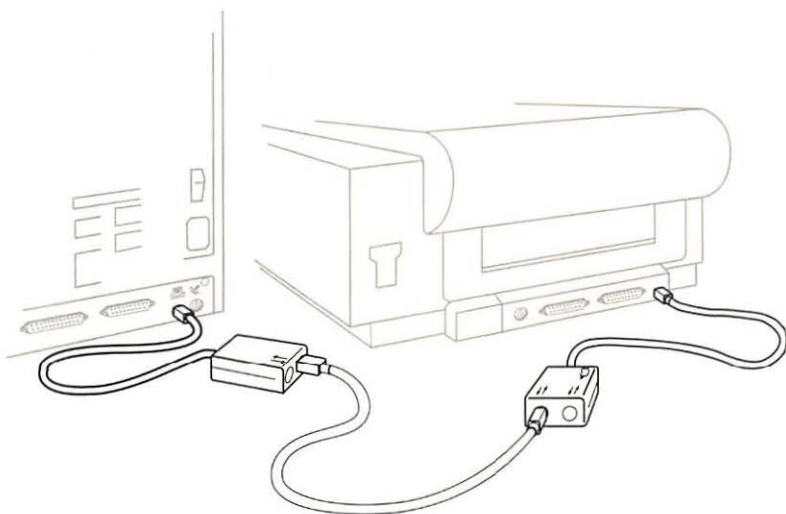

Figure 1-20
2. **Plug a LocalTalk connector box into the LocalTalk port on the LaserWriter II. (As shown in Figure 1-20, the LocalTalk port is on the right side of the connector panel.)**
4. **Connect the two connector boxes with a LocalTalk cable. (See Figure 1-20.)**